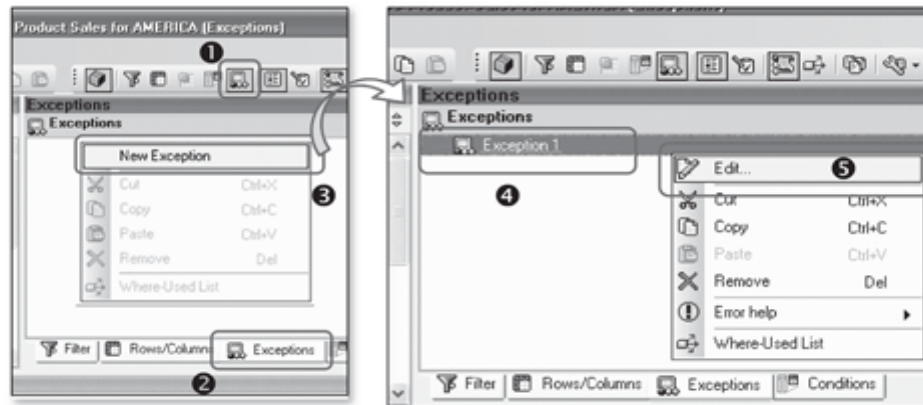
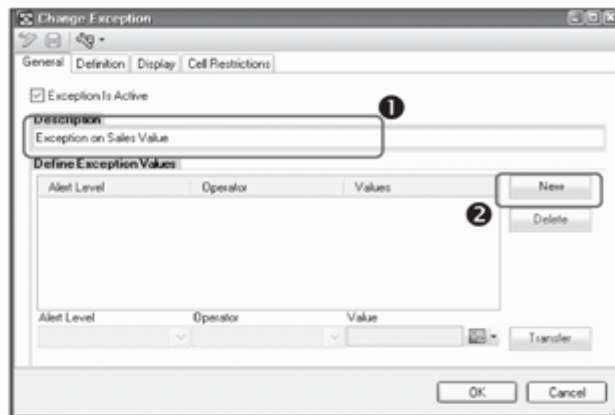

Figure 9.86 Create a New Exception
Figure 9.87 Change Exception
1. Display the exceptions screen area in the Query Designer by clicking on the Exceptions icon as shown in ❶ of Figure 9.86. The Exceptions area will be visible as shown in ❷. Create a new exception by selecting New Exception from the context menu in the Exceptions area.
2. An exception with a system-defined default description is created (❸). To edit and define this exception, select Edit from the context menu (❹).
3. Maintain the Description for the exception (❶ of Figure 9.87).